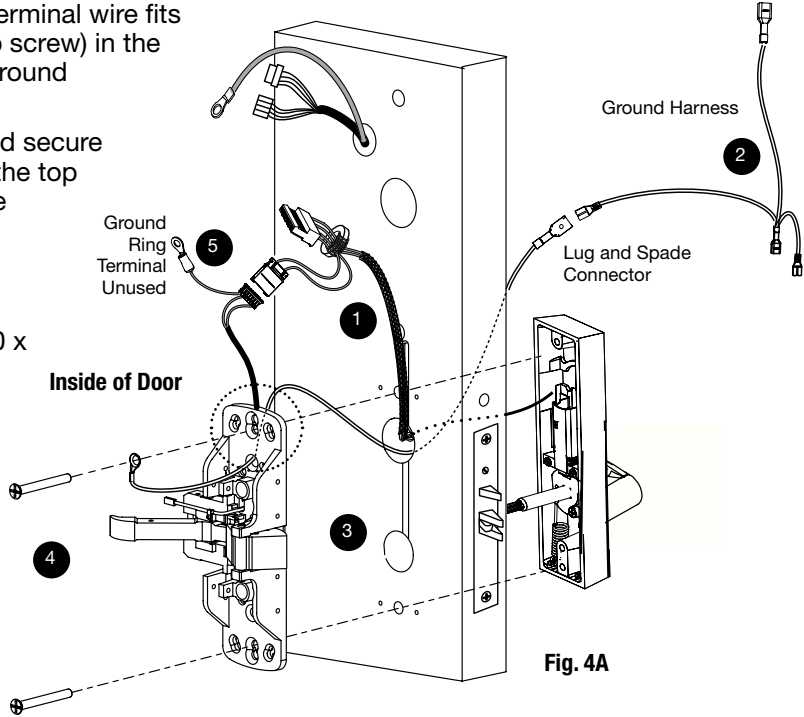

Fig. 4A
1. Route ET harness through wire route slot for wood doors (Fig. 4A) and access hole for metal doors (not shown).